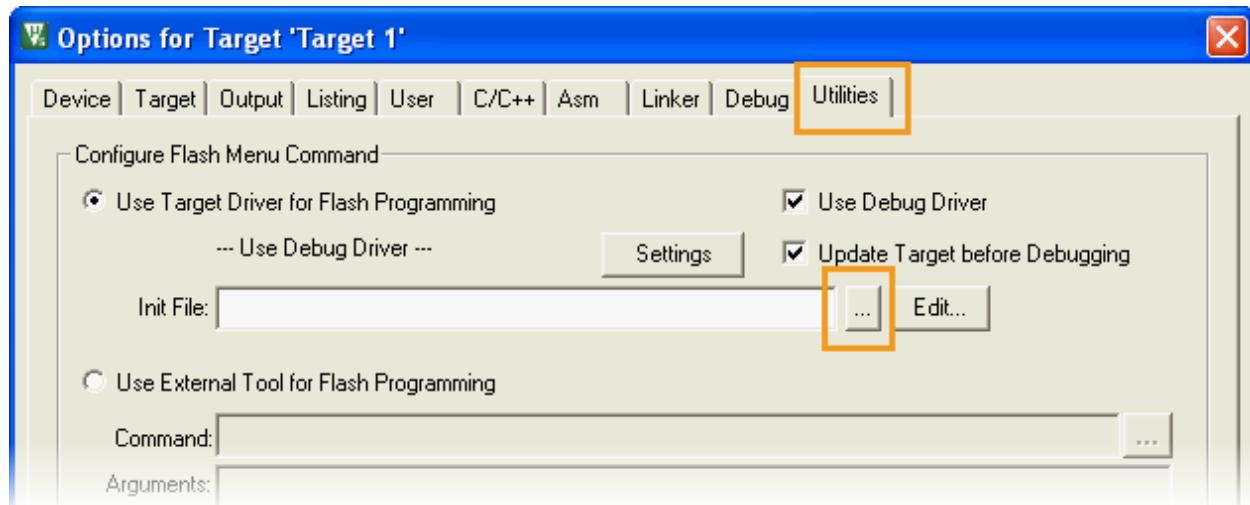

Figure 51. Select configuration file
- 4) Select **Utilities** tab, then browse for the **Init File**. Select the file and press **Open**. The configuration file for the SDK is named as `flash.ini` and located under `<sdk_root>\tools\keil\mt7687`, as shown in Figure 51.